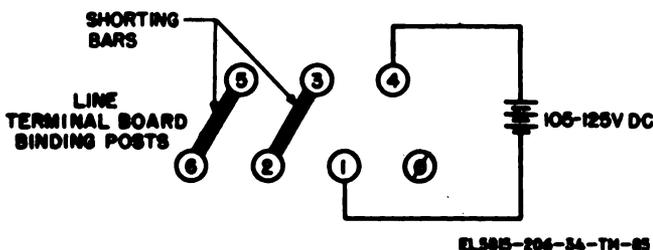

Figure 3-12. Teletypewriter test connections.
(1) If the local page printer operates properly when test signals are transmitted from the local keyboard-transmitter but does not operate properly when the test signals are transmitted from another station, the fault is either in the signal circuit or in the teletypewriter equipment at the other station.
(2) If the local page printer does not operate properly when the test signals are transmitted from the local keyboard-transmitter but does operate properly when the test signals are transmitted from any of the other stations in the system, the fault is in the local keyboard-transmitter.
(3) If the local page printer does not operate properly regardless of the source of test signals, the trouble is in the local page printer.
(4) If the fault is determined to be in the local teletypewriter, follow the instructions in *c* below.
c. Local Test Method. Connect high level teletypewriters for local test as shown in fig. 3-12 or low level teletypewriters as described in paragraph 3-18*b*. Check the performance of the teletypewriter as described in paragraphs 3-7, 3-8, and 3-9 of TM 11-5815-206-12. If the performance checks do not reveal the fault, make the tests described in paragraphs 3-18, 3-19 and 3-20.
(a) *Signal circuit TT-4(*)/TG, TT-335/TG and TT-537/G (fig. 3-12).*